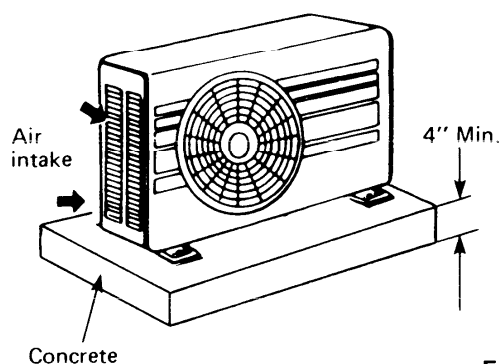

Fig. 5
- provide a solid base; concrete (concrete block, 4 x 4 beams or equal), about 4" above ground level to reduce humidity and possible water damage in unit and decrease service life. Fig. 5